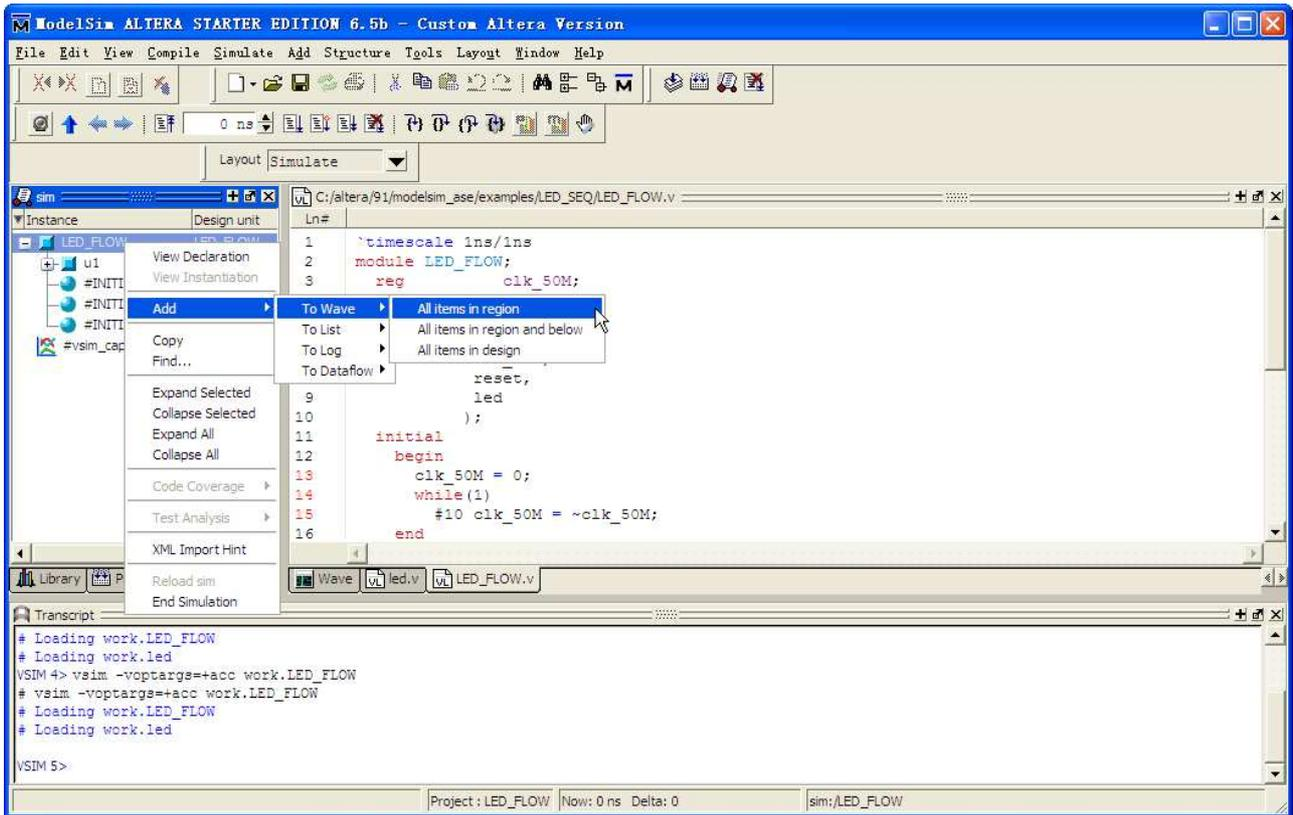
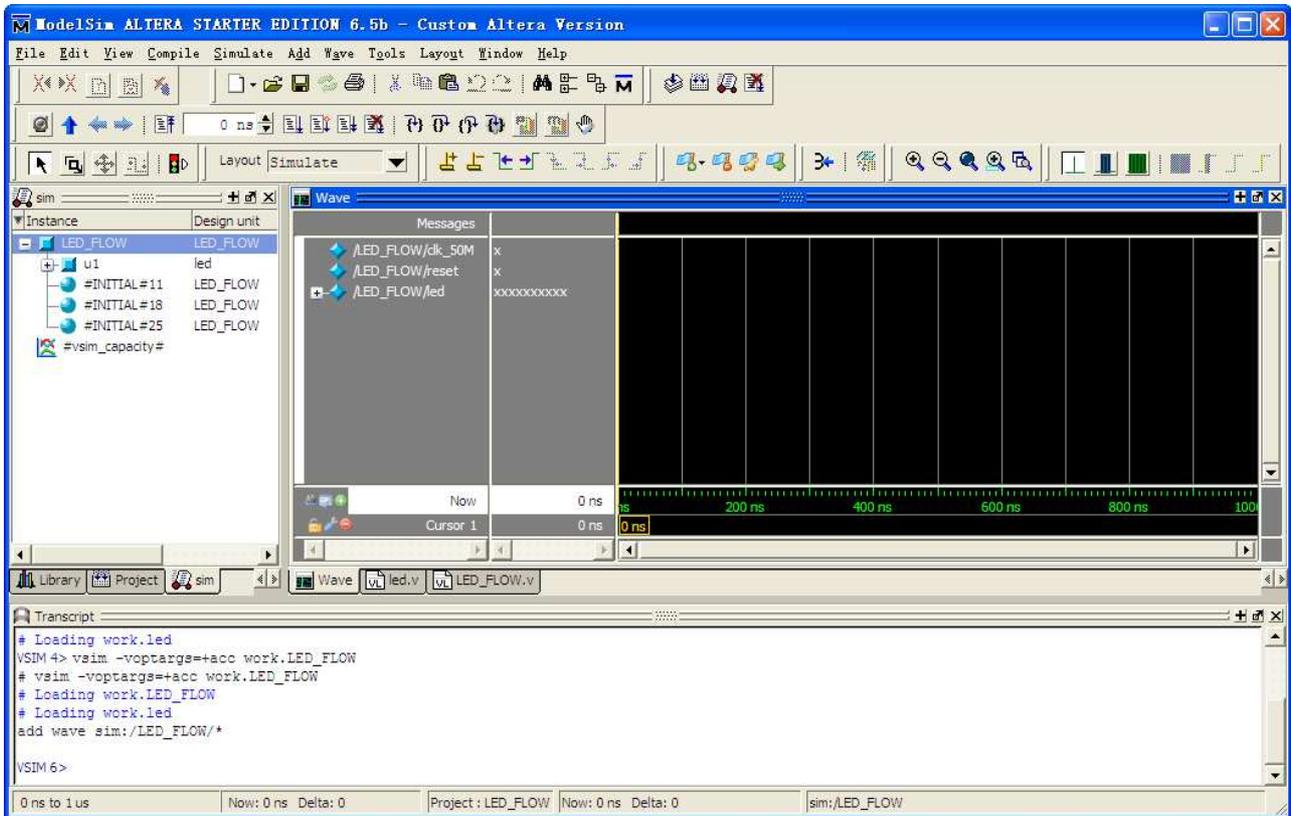

Figure 3.3 Add To Wave
Figure 3.4 Wave window
- In Figure 3.3, select **LED_FLOW**, click the right mouse button, then select **Add > To Wave > All items in region**, then click the left mouse button. Figure 3.4 will appear.
5. After finishing the last step above, the wave window will appear, shown in Figure 3.4.